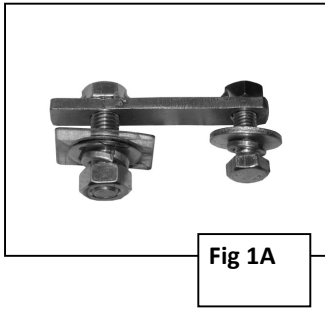
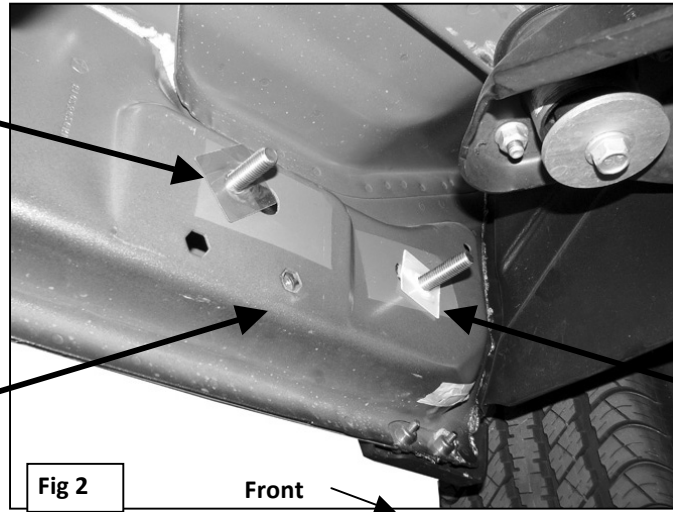

Fig 1A
Fig 2
2. Starting at the driver side-front of the vehicle, remove the tape covering the factory oval holes in the inner body panel located by the front tire. Partially thread a Plastic Retainer onto the threaded end of a Bolt and Nut Plate, (**Fig 1A**). Once you have assembled the Bolt and Nut Plate, insert it into the factory oval hole. Hold the Bolt end with one hand and tighten the Plastic Retainer with your other hand. **NOTE:** Tighten the Plastic Retainer until it is flush against the side panel, (**Figure 2**). **IMPORTANT:** The Plastic Retainer is designed to prevent the Bolt Plate from falling into the body cavity and to aid in mounting the Bracket.
6. Move to the mid point on the driver side of the vehicle and remove the tape covering the factory oval hole in the inner body panel, **(Figure 4)**. Select and install a Bolt and Nut Plate as described in Step 2, **(Figure 1A, 4)**.